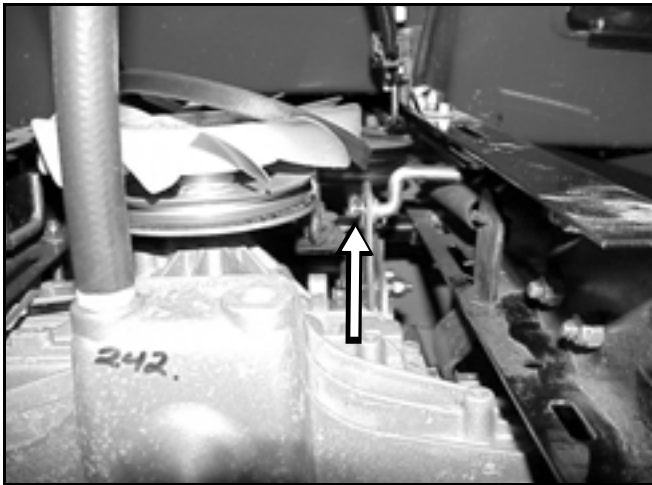

Figure 89
5. Install the washer and hairpin on the speed control rod (Figure 89).